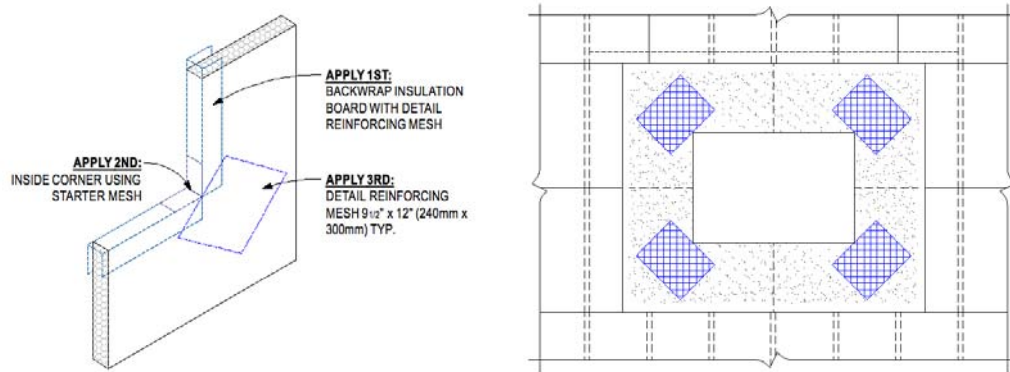

Figure 8
- 8.3.10.1. At openings, align the insulation boards so that the edges (vertical and horizontal joints) do not coincide with the corners of the opening as illustrated in Figure 8 (refer to Dryvit Outsulation MD System Installation Details, DSC167NC).
- 8.3.18. Corners of all openings such as windows, doors, mechanical equipment and all penetrations shall be reinforced with Detail Mesh placed diagonally to the opening as illustrated in Figure 8 previously.